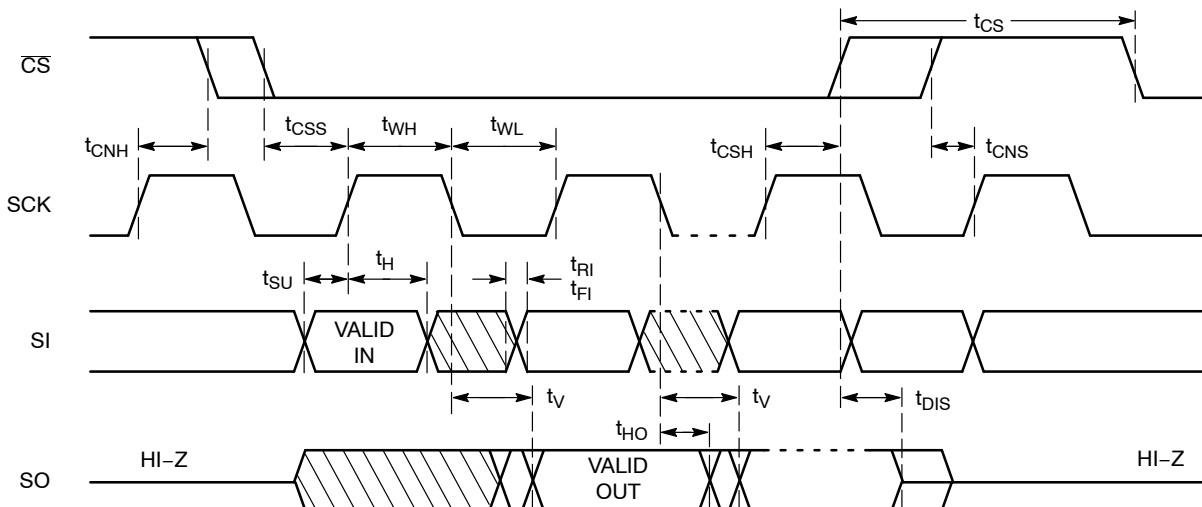

Figure 2. Synchronous Data Timing
8. All Chip Select (CS) timing parameters are defined relative to the positive clock edge (Figure 2). t_{CSH} timing specification is valid for die revision D and higher. The die revision D is identified by letter "D" or a dedicated marking code on top of the package. For previous product revision (Rev. C) the t_{CSH} is defined relative to the negative clock edge (please refer to data sheet Doc. No. MD-1006 Rev. U)
After a high to low transition on the $\overline{\text{CS}}$ input pin, the CAT25010/20/40 will accept any one of the six instruction op-codes listed in Table 9 and will ignore all other possible 8-bit combinations. The communication protocol follows the timing from Figure 2.